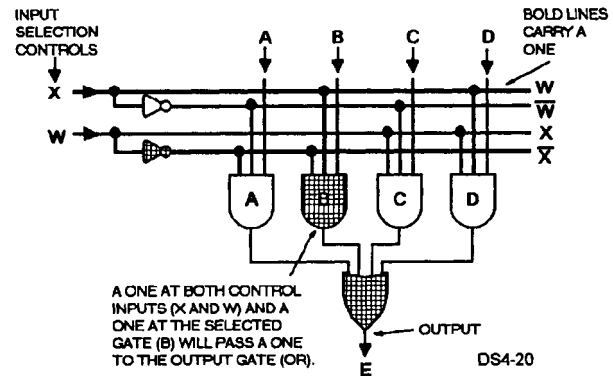

Figure 4-20.—Example of a selector circuit.
• **Selectors** —Some registers have no input selection capability and require the selection of source information to be made before actual input gating. They expand the number of input data paths to a register. Refer to figure 4-20.